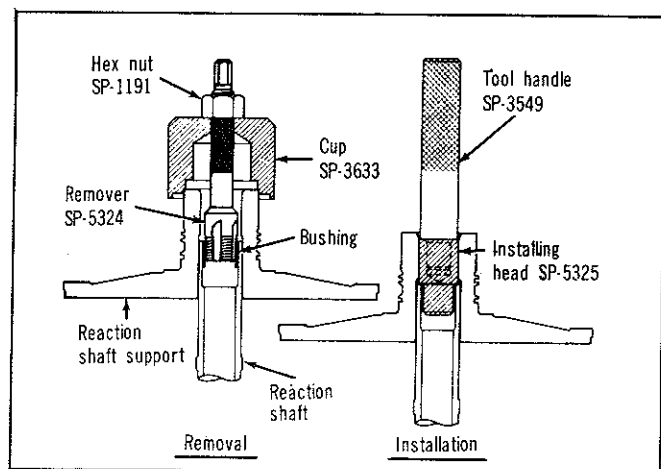

Fig. 46—Replacing reaction shaft bushing
(1) Assemble remover Tool SP-5324, cup Tool SP-3633, and hex nut Tool SP-1191 (Fig. 46).
(2) With cup held firmly against reaction shaft, thread remover into bushing as far as possible by hand.
(3) Using a wrench, screw remover into bushing 3 to 4 additional turns to firmly engage threads in the bushing.
(4) Turn hex nut down against cup to pull bushing from reaction shaft. Thoroughly clean reaction shaft to remove chips made by remover threads.
(5) Lightly grip bushing in a vice or with pliers and back tool out of the bushing. Be careful not to damage threads on bushing remover.
(6) Slide a new bushing on installing head Tool SP-5325, and start them in the bore of reaction shaft (Fig. 46).
(7) Support reaction shaft upright on a clean smooth surface and install handle Tool SP-3549 in installing head. Drive bushing into the shaft until tool bottoms.
(8) Thoroughly clean reaction shaft support assembly before installation.